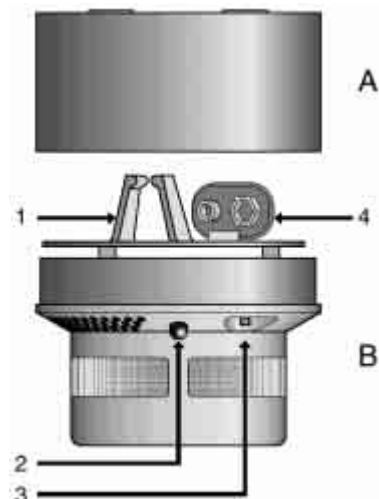

Fig. 3
- Screw the base to the ceiling using the fixing materials provided (see Fig. 3 for dimensions).
- Attach the 9 V rectangular battery to the connector and insert it into the battery holder (1).
- Remove the home smoke detector (Fig.3, B) from its base (A) by turning it anticlockwise.